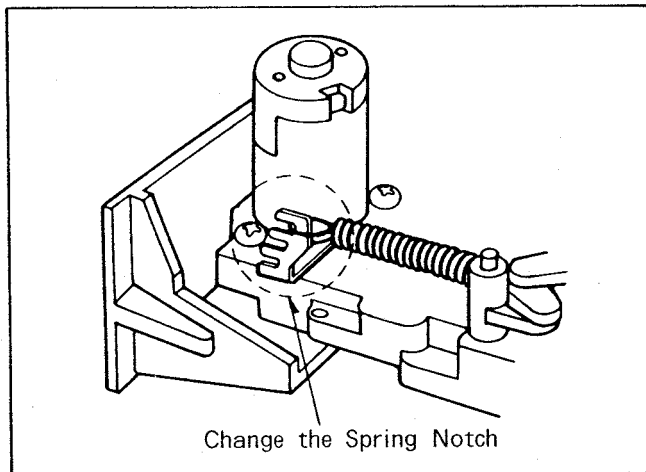

Fig. M23
3. If it is out of specification, change the spring notch as shown in Fig. M23.